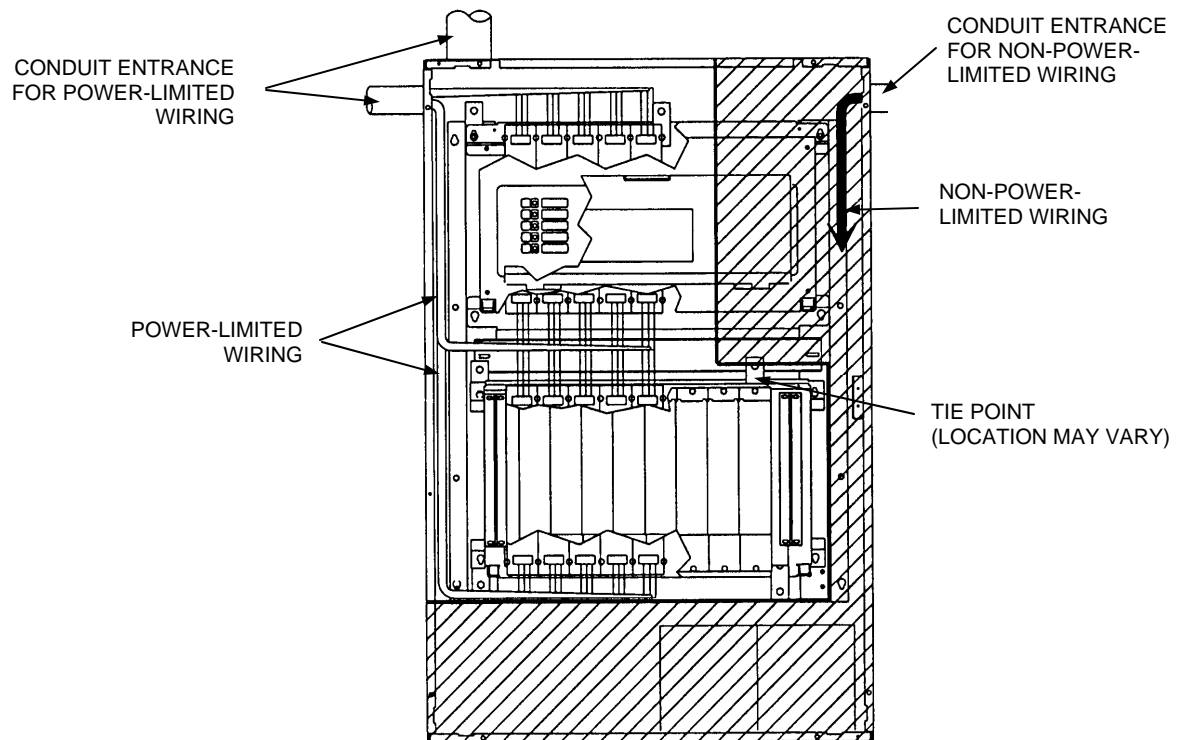

Figure 2. Power-Limited Wiring
- Non-power-limited field wiring (AC power, batteries, city connection) must be installed and routed in the shaded areas shown in Figure 2.
- Power-limited field wiring must be installed and routed in the non-shaded areas shown in Figure 2, with the exception of city wiring.
- Excess slack should be kept to a minimum inside the back box enclosure. The wiring should be neatly dressed and bundled together using the wire ties provided with the equipment. Anchor power-limited wiring to tie points, as shown in Figure 2.